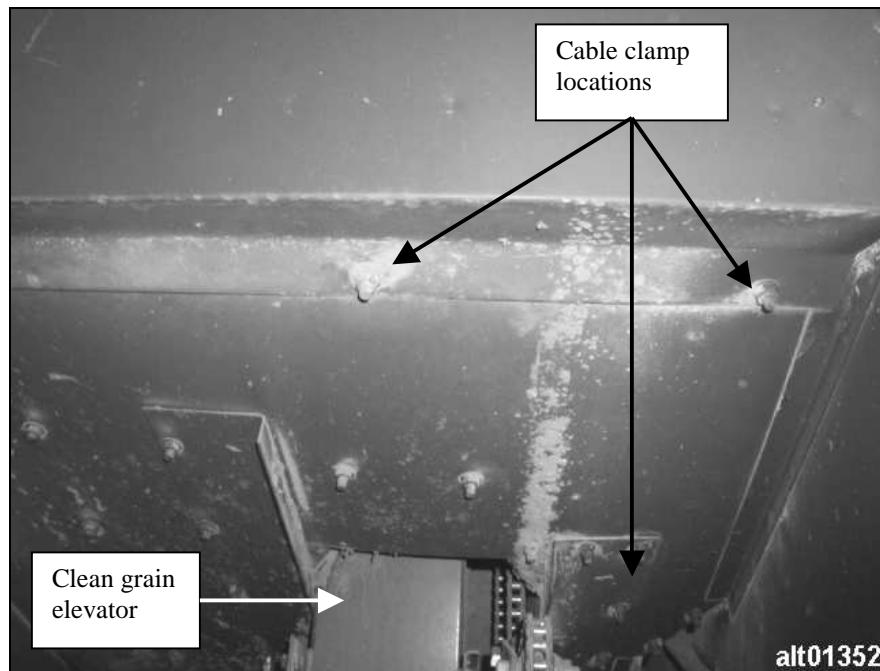

Figure 21. Locations for securing cable under grain tank
- C. Route cable to back edge of grain tank and then across to left side of machine where batteries are located. Secure cable underneath grain tank to existing bolt studs using provided cable clamps as shown in Figure 21.